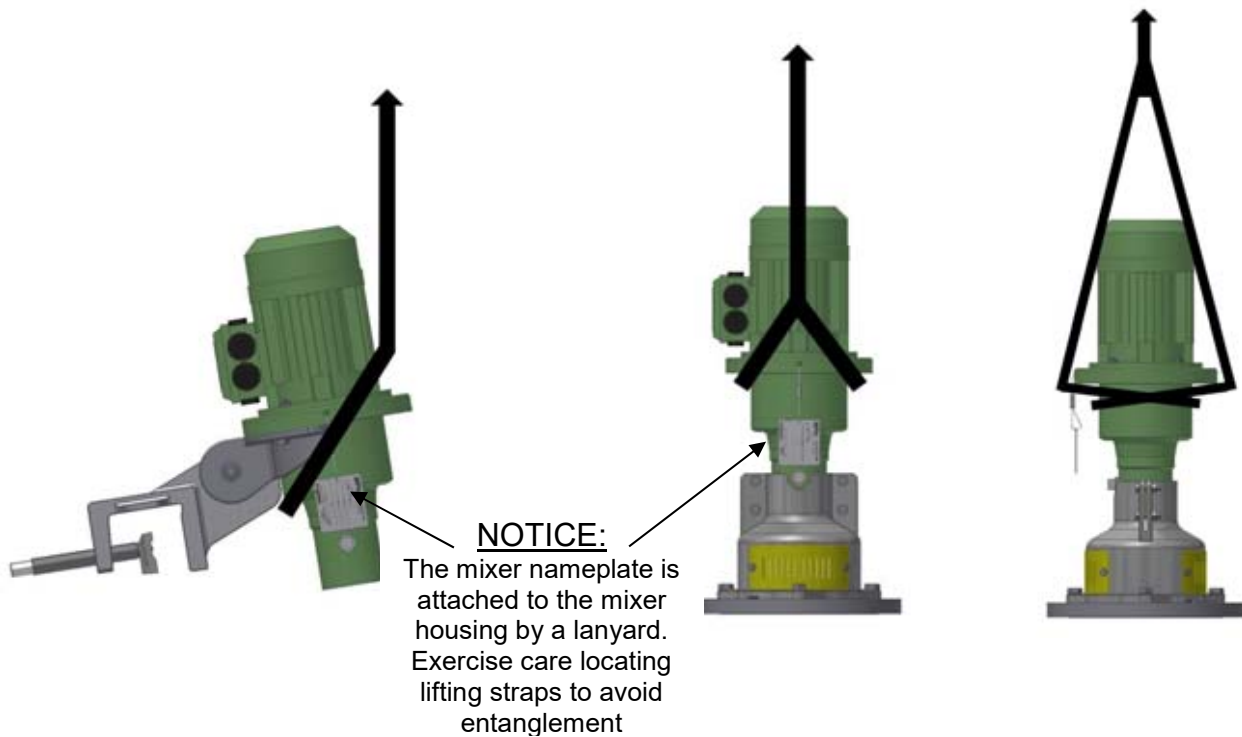

FIGURE 1
- 1.4 Lift the mixer from its crate using one of the follow lifting methods, dependent on mixer mounting style. The "P" units, which are clamp mounted to the side of the tank, are lifted as shown with a single sling, choker method. The "Q", "L", and "S" fixed mounted units should be lifted in a similar fashion using two slings directly across from each other to vertically lift the mixer. Refer to Figure 1.